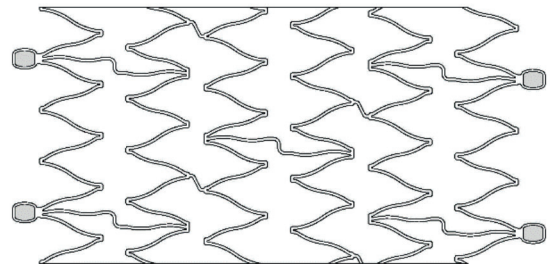

Figure 2 Nitinol Stent
- An implantable self-expanding nickel-titanium alloy (nitinol) stent, as shown in Figure 2. The stent is flexible, a fine tubular mesh prosthesis, with a helical design, which achieves its unconstrained diameter upon deployment into the target vessel. Upon deployment, the stent imparts an outward radial force on the luminal surface of the vessel to establish patency.